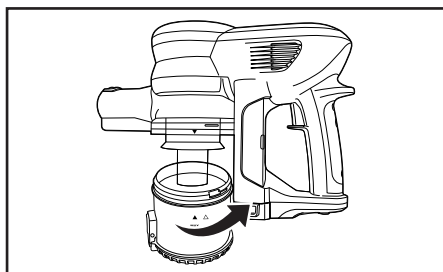

Fig. 3
1. Turn the dust cup counter-clockwise to line-up the arrows and remove from the vacuum (Fig. 3).